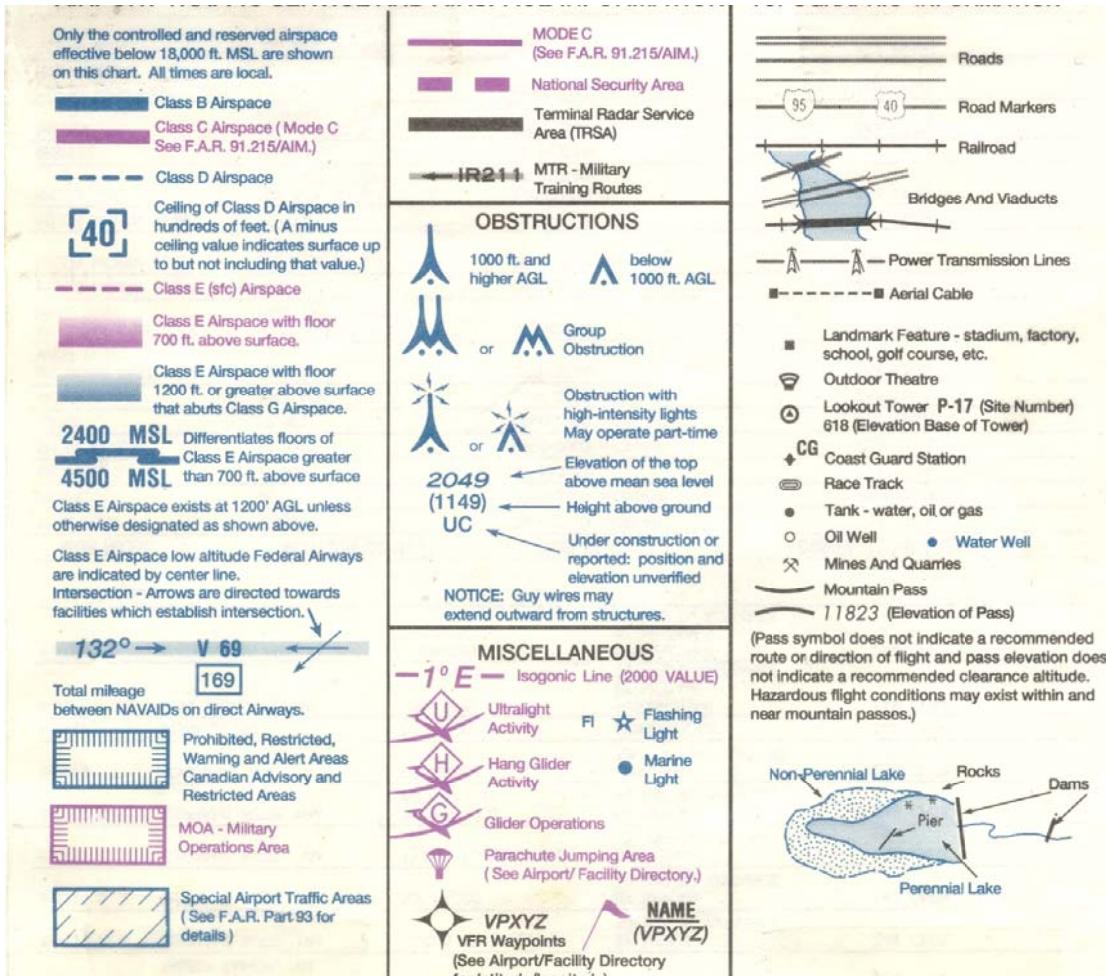

Fig 9B - Sectional Chart Legend; Key to Symbols; Bottom Half
- Magnetic variation, is indicated for each location on a Sectional as shown in Fig 5, & illustrated in Fig 9B. Magnetic variation correction must be applied to obtain MH (magnetic heading). See paragraph 4.2.4.2.2 below for additional details.